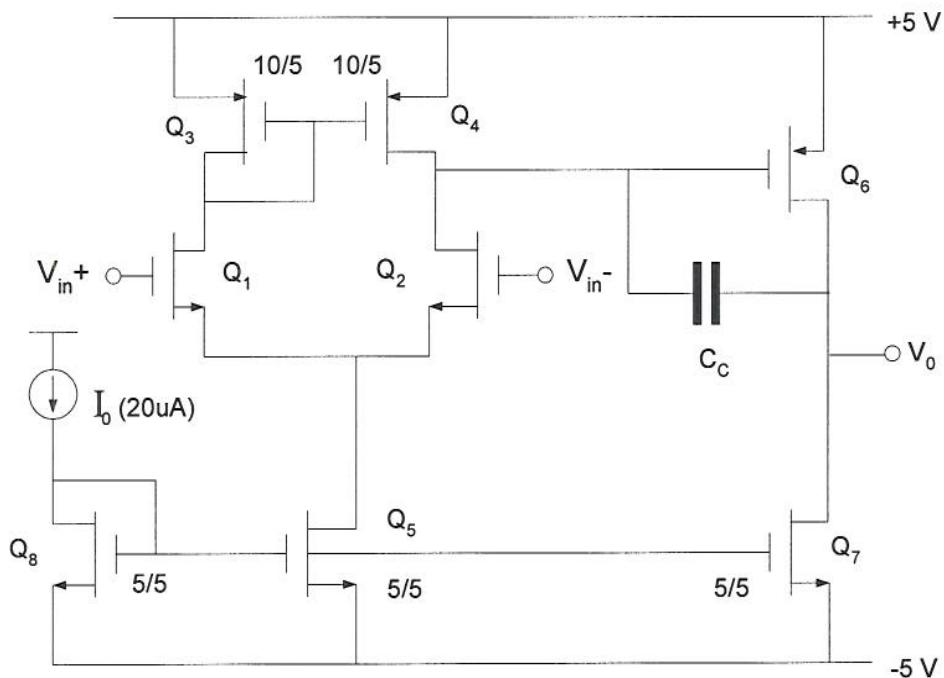

Figure 5
5. Figure 5 shows a partially-designed two-stage CMOS op-amp required to give a voltage gain of approximately 80 dB, a slew-rate of 5 V/ μ s and a gain-bandwidth product of 3 MHz.